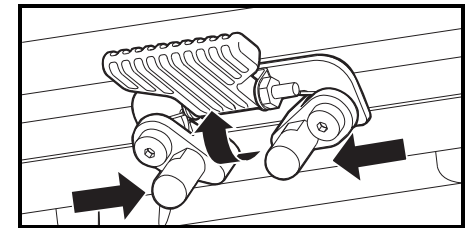

Figure 15. Seat Height Adjustment - Seat Latch Safety
4. Flip up the seat latch safety. **See figure 15.**
5. Squeeze the seat latch and release the seat from the front trapeze bar. **See figure 15.**